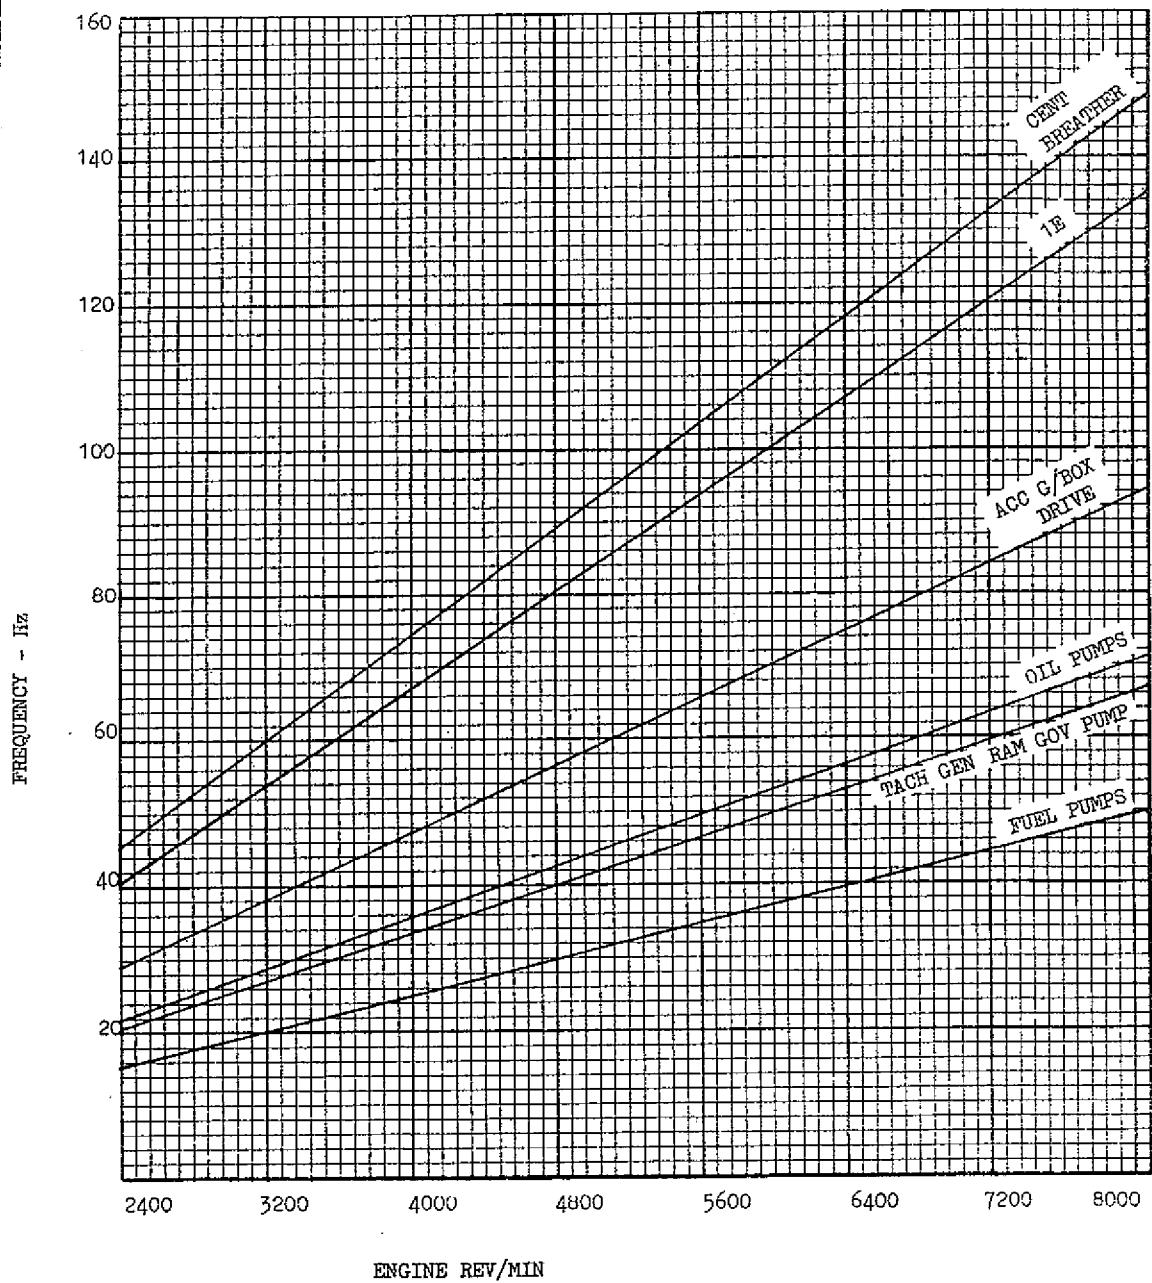
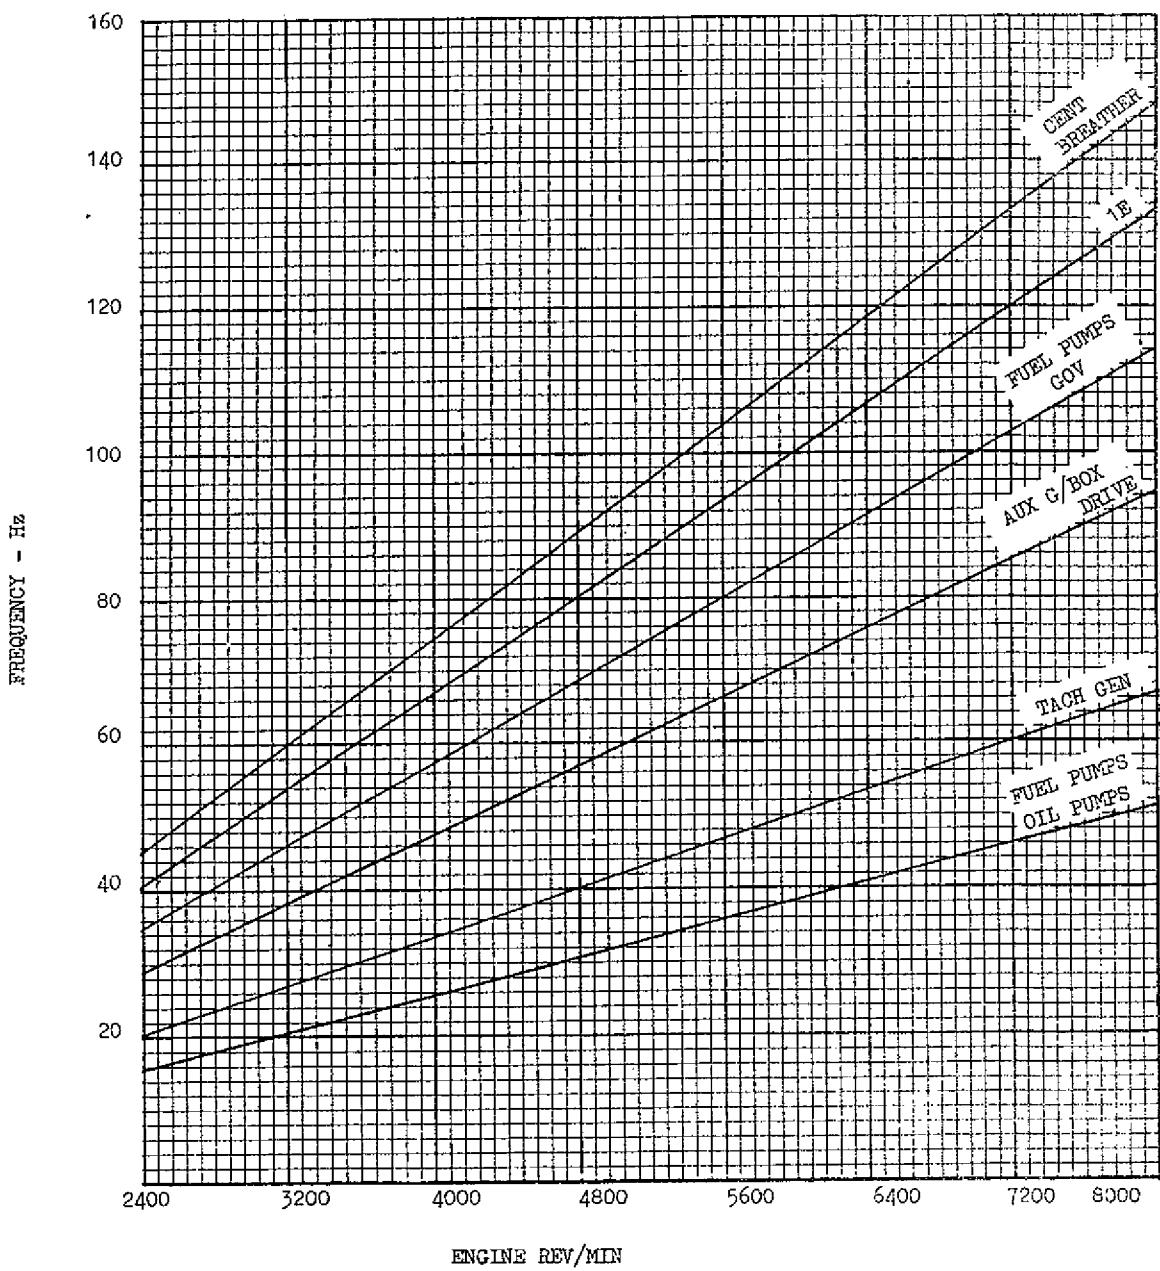

Fig.6 Avon 122 Component Frequencies Chart
Fig. 7 Avon 207 Component Frequencies Chart
- 8.2 Component frequency chart. (Fig.6 Avon 122, Fig.7 Avon 207). Note frequency value of IE and accessories for rev/min set in Sub-item 8.1.